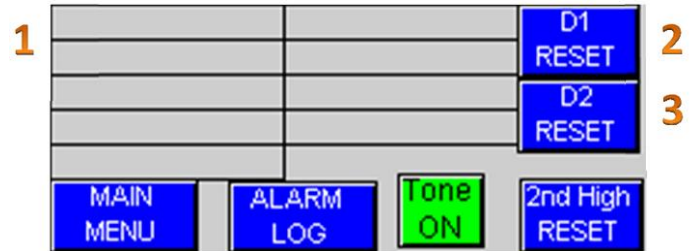

Figure 11. Alarm Menu Screen
5. **Alarm Menu.** Displays "Alarm Menu", Figure 11.
5. **Back.** Returns to the "Alarm Menu", Figure 11.